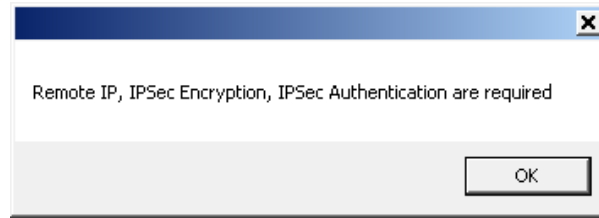

Figure 3-32 IPsec Configuration Error Screen
6. Select **Save All**. IPScom will display an Error Message alerting the user to any required settings which have not been entered (Figure 3-32).